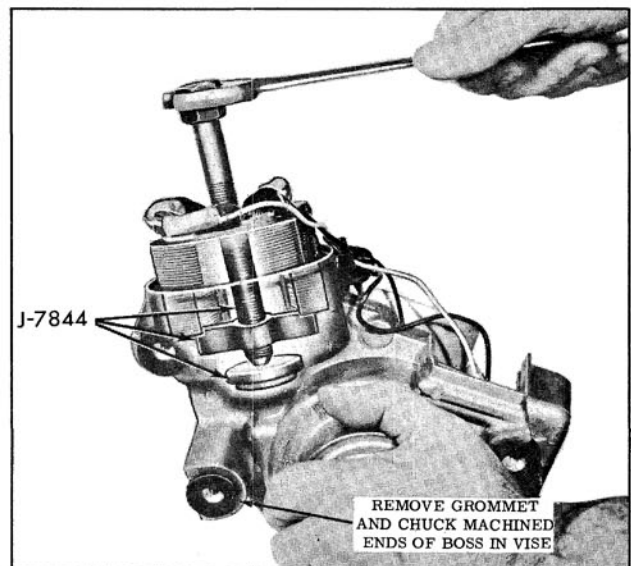

Fig. 13-138 Removing Field Coil
6. Remove field coil with Tool J-7844 as shown in Fig. 13-138.